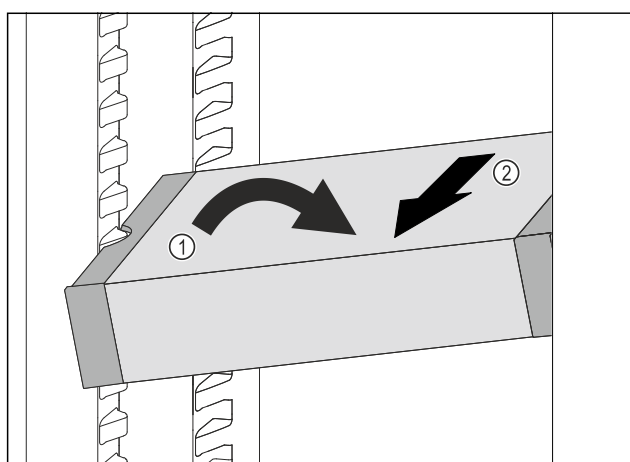

Fig. 207
- Set VarioSafe in refrigerator compartment at an angle. Fig. 207 (1)
- Take VarioSafe out to the front. Fig. 207 (2)